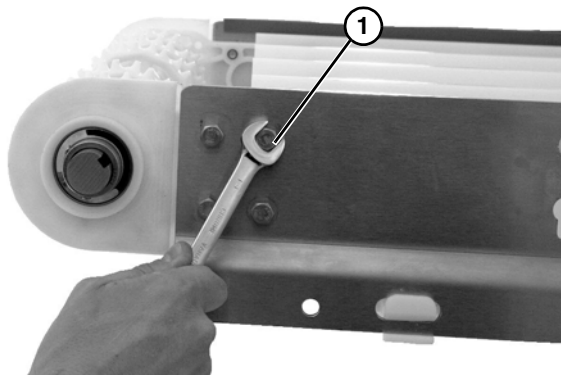

Figure 46
4. Remove the four head plate bolts (Figure 46, item 1) on both sides of the conveyor.